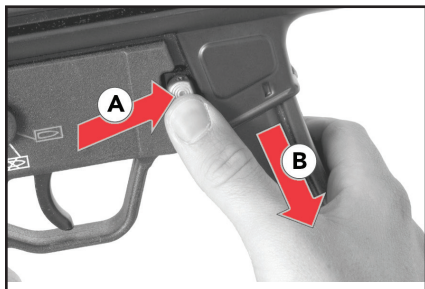

Fig. 25 – Unloading
2. Remove magazine by grasping magazine housing, press magazine catch (Fig. 25-A) and remove magazine (Fig. 25-B)